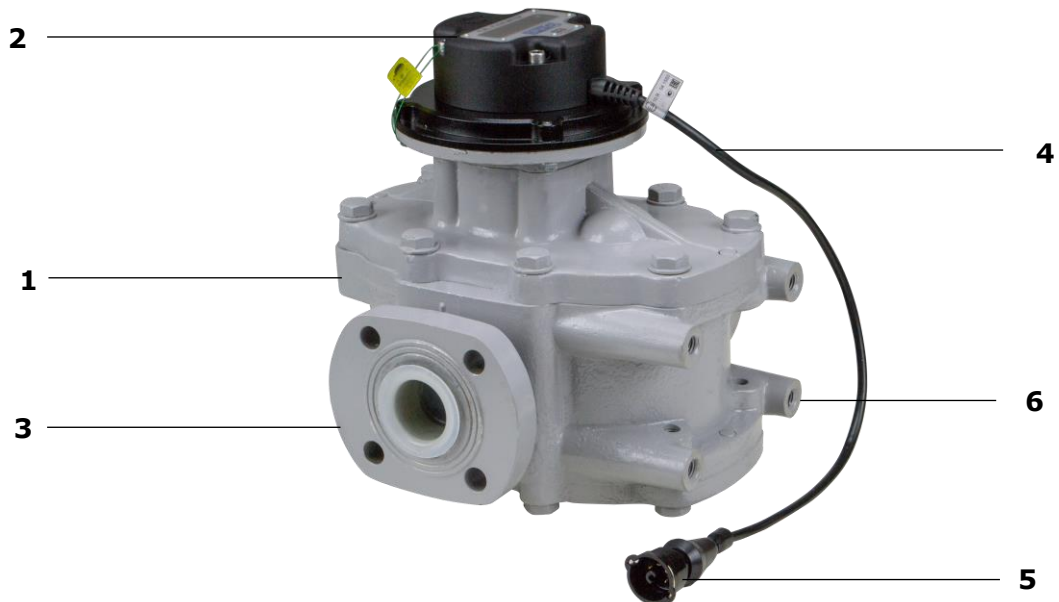

Figure 9 – DFM Industrial components
DFM Industrial consists* of a measuring chamber with oval gears (1), measuring “head” (2) with a display, the electronic unit and the independent power supply battery which are located inside, two connecting elements to connect it to the pipeline (3) (flanges or fittings with a cap nut), the interface cable (4) with a connector plug (5) and four mounting holes (6) (see figure 9).